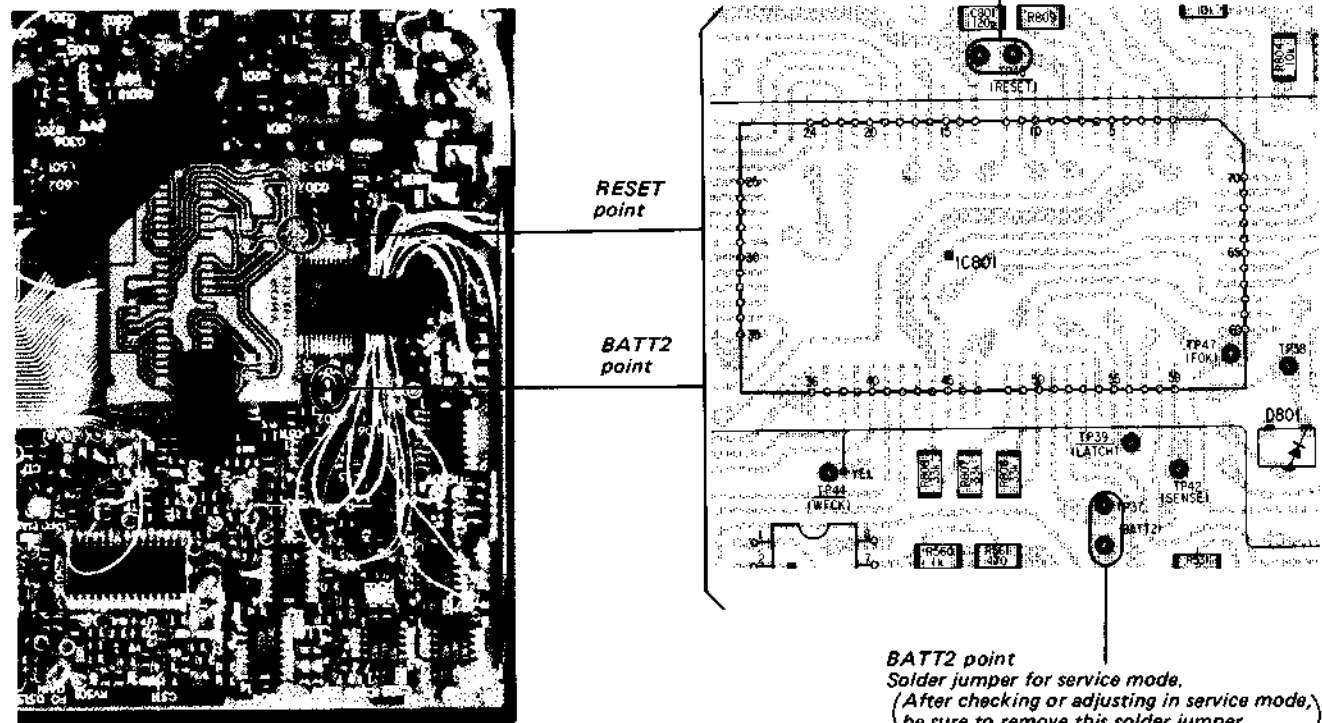

Fig. 3 BATT2 point, RESET point Positions
- 2) In that state, solder jumper BATT2 point. (See Figure 3)
- 3) Short the RESET point once and release. (See Figure 3)